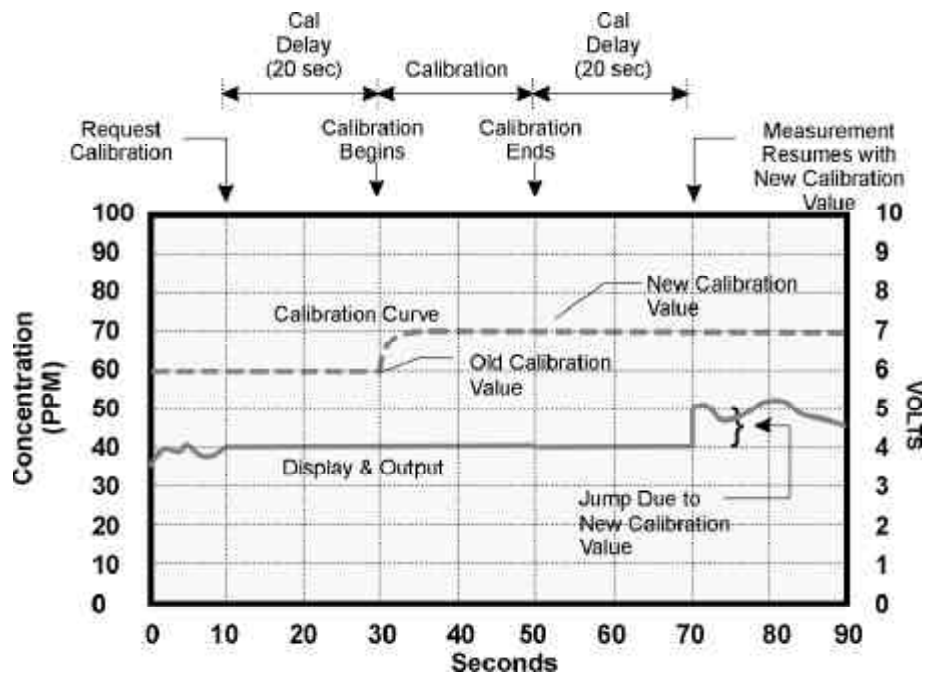

Figure 4-3: Output Jump After New Calibration, CAL=HOLD
**NOTE:** If the instrument is set to CAL = HOLD, there will be no change in display or output of the calibration value, it will hold on the last measured value before the calibration command was given. At the end of the calibration event, there will be another delay in output equal to the CAL DELAY period while the gas concentration in the sample cell changes from pure calibration gas to actual sample gas. If the calibration has changed since the last calibration, there will be a jump in the reading as the new calibration takes effect. See Figure 4-3.